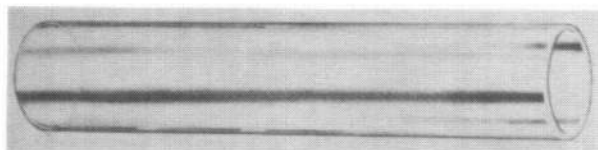

Fig. 4 Abrasion resistant sleeve Part No. 900223
(4) Sleeve Part No. 900223 (fig. 4) is a heat shrinkable polyolefin tubing transparent white in colour and used where a skintight fit is desired. Temperature range of the sleeve is -53.8°C to $+135^{\circ}\text{C}$ (-65°F to $+275^{\circ}\text{F}$). During installation the sleeve is positioned between the end fittings and shrunk onto the hose by application of heat, either in an oven or with a portable heat gun.